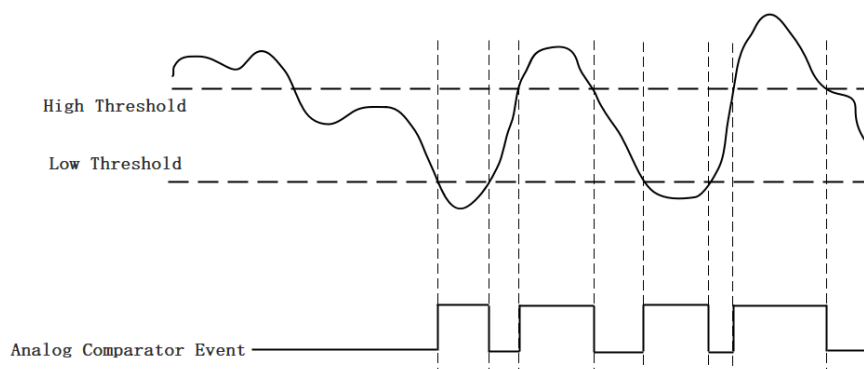

Figure 10 Leaving Window Trigger
**Leaving Window Trigger:** The window comparator output is high when the signal leaves the window defined by the *Low Threshold* and *High Threshold*. The output will change to low when the signal enters the window as shown in Figure 10.